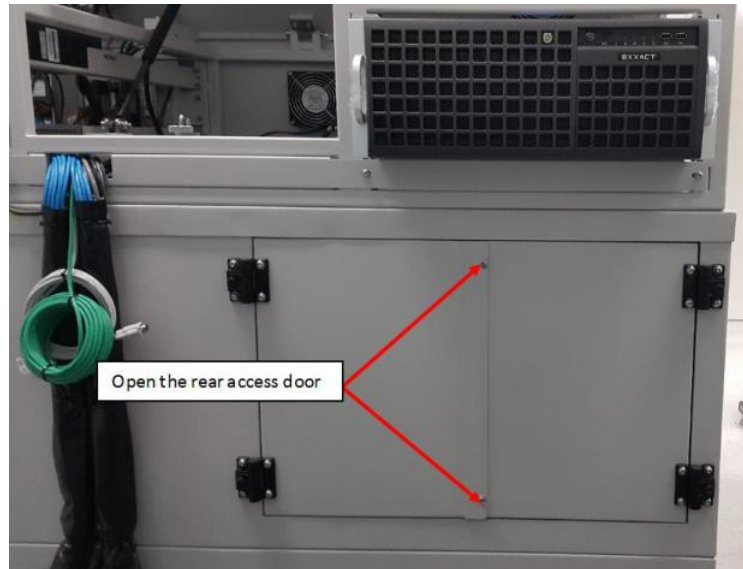

Figure 3 S2EX Rear Door
1. Open rear access door as shown in the Figure 3.